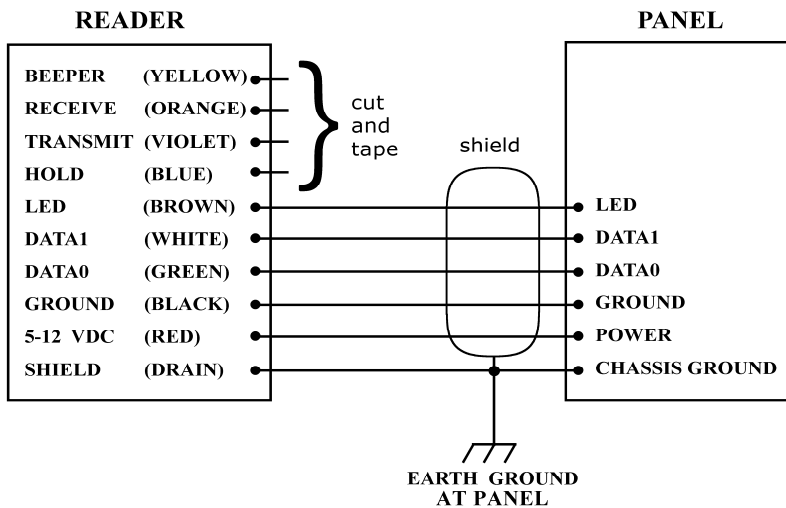

FIGURE 1: Wiring Diagram (Wiegand - see Procedure, Step 4)
4. Connect the reader's cable to the access control panel as shown in Figure 1. Connect the **yellow** wire only if used for Beeper control by the panel. In steps 8 and 9, let the yellow wire **float**. Connect the **blue** wire only if used for Hold control by the panel. **Do not connect** the *orange* and *violet* wires to anything. **Tape or cap** all unused wires singly.